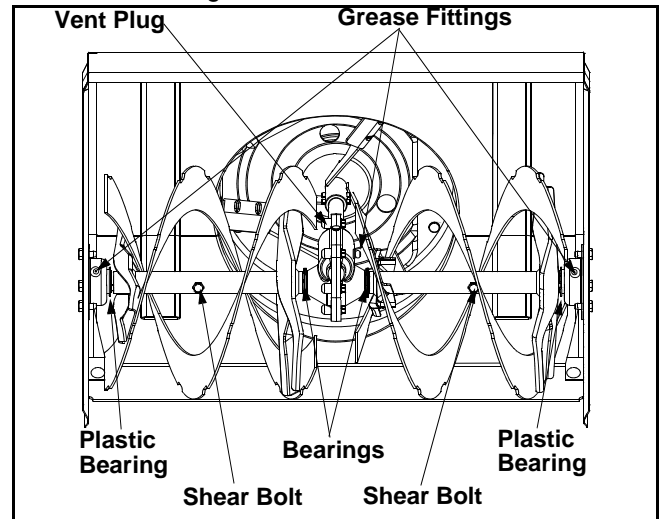

Figure 14
The gear case is lubricated with grease at the factory and it does not require checking. If disassembled for any reason, lubricate with 2 ounces of Shell Alvania grease EPR00, part number 737-0168. Before reassembling, remove old sealant and apply new sealant. See Figure 14.
- At least once a season, remove the shear bolts from the auger shaft and spray lubricant inside the shaft. See Figure 14.
- Grease fittings can be found at either end of the auger shaft. Lubricate with a grease gun once a season. See Figure 14.
Every season lubricate the auger bearings and the bearings on the side of the frame with light oil. See Figure 14.
- The augers are secured to the spiral shaft with two shear bolts and hex lock nuts. If you hit a hard foreign object or ice jam, the snow thrower is designed so that the bolts may shear. Refer to Figure 14.